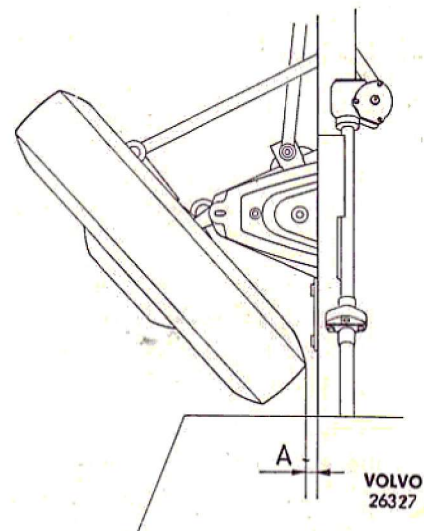

Fig. 9. Adjusting the wheel lock.
Turning is limited by the stop screw on the pitman arm and relay arm, see Fig. 9.
1. Turn the left wheel for a left-hand turn as far as it goes. Check that the distance between the tyre and the stabilizer (measurement A, Fig. 9) is 10–15 mm ( $25/64-19/32''$ ). If not, slacken the locknut for the relay arm stop screw, after which this is turned until the correct value is obtained. Then lock the stop screw.